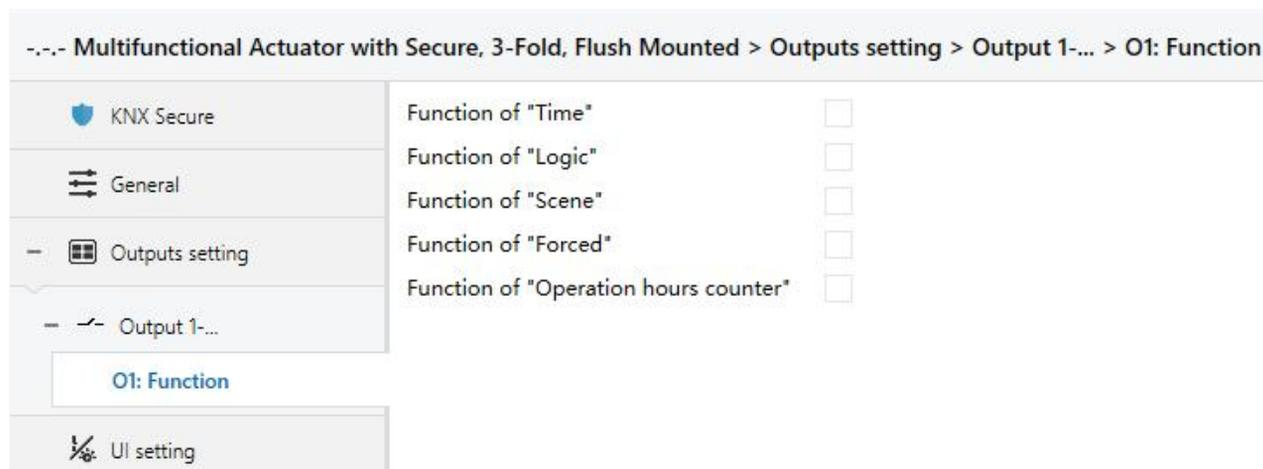
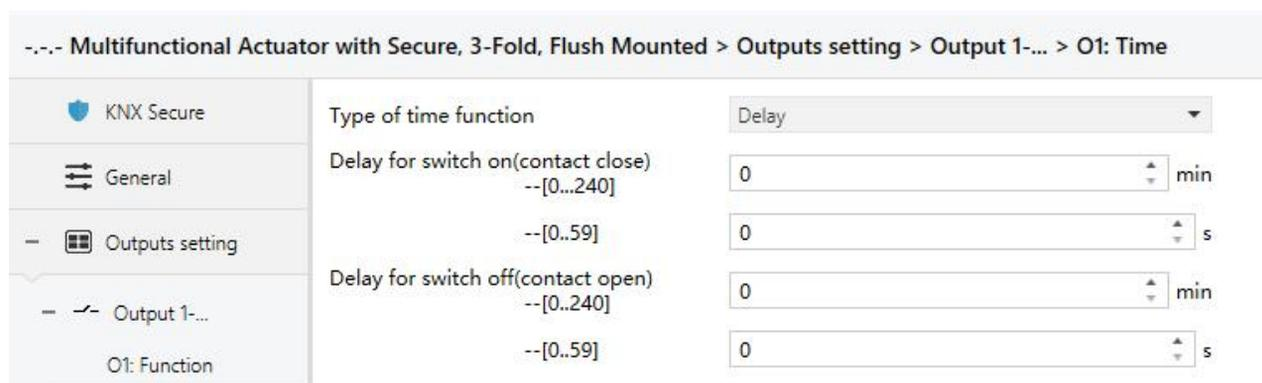

Fig. 4.4.1(2) Special function enable setting interface "Output X: Function"
Fig. 4.4.2 Parameter window "Output X: Time-Delay"
This parameter defines whether enable the special functions of the switch actuator, The parameter setting interface "Ox: Function" will be seen when select "Enable", and able to set the special functions individually in Fig. 4.4.1(2)
This parameter window is visible when selecting "enable" in the parameter "Function of 'time'" in the window "Output X: Function" shown in Fig. 4.4.1(2). See Fig. 4.4.2. And the object "enable time function" will be also visible, which is used to disable the time function. After disabled, clear the current timer, stop running and ignore the delayed operation.